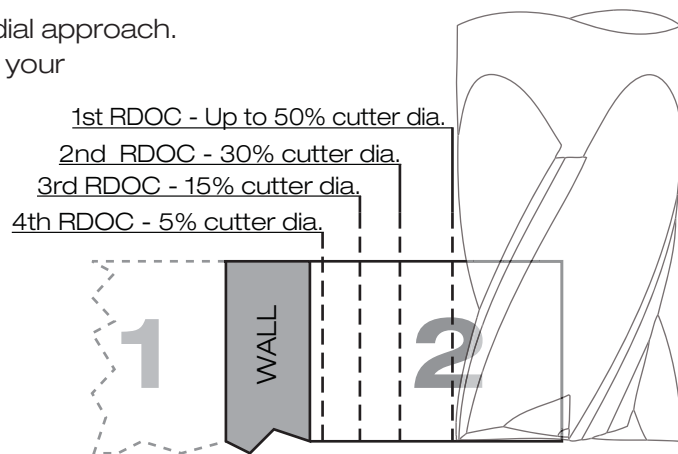

Fig. 1
Keeping a wide cross-section behind the wall for support on the way down is vital. Below, we recommend producing a “stepped down” approach dividing the total wall height to manageable depths while working each side of the wall (see fig. 1). The ADOC dimension can/will vary depending on the material (and its hardness) being cut.
- Fig.1 represents a 5-step progressive radial approach. The number of passes will depend upon your particular application, material/hardness & final wall thickness/height.